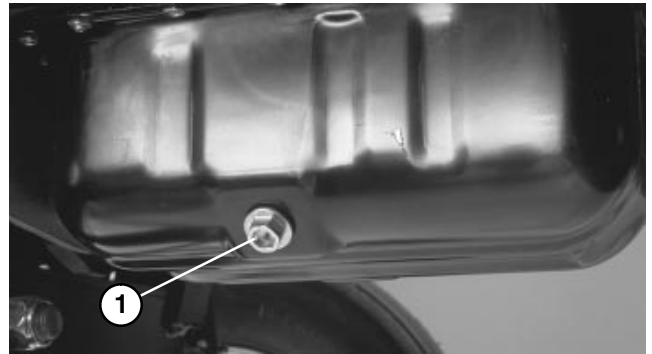

Figure 28
2. Set drain pan under the oil pan and in line with drain plug (Fig. 28).